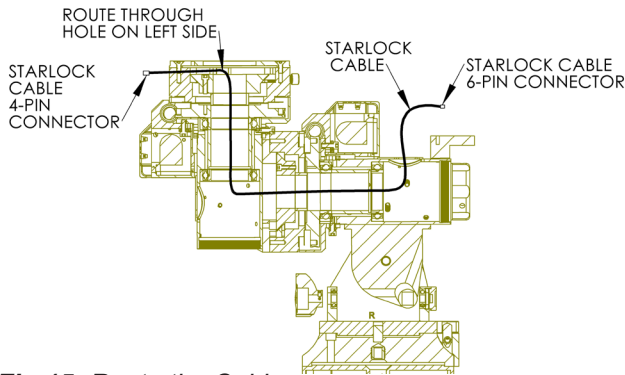

Fig 15: Route the Cables
1. First route the Starlock cable which is the black cable with 6-pin connector on one side and 4-pin connector on the other. See Figure 15.